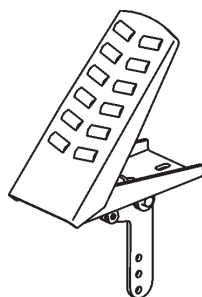

Figure 19. Blade Speed Control Foot Pedal
1. The foot pedal (Figure 19) solely controls blade speed. The position of the foot pedal determines the blade speed. Slow blade speed is obtained by slightly depressing the pedal. Maximum blade speed is obtained by fully depressing the pedal.